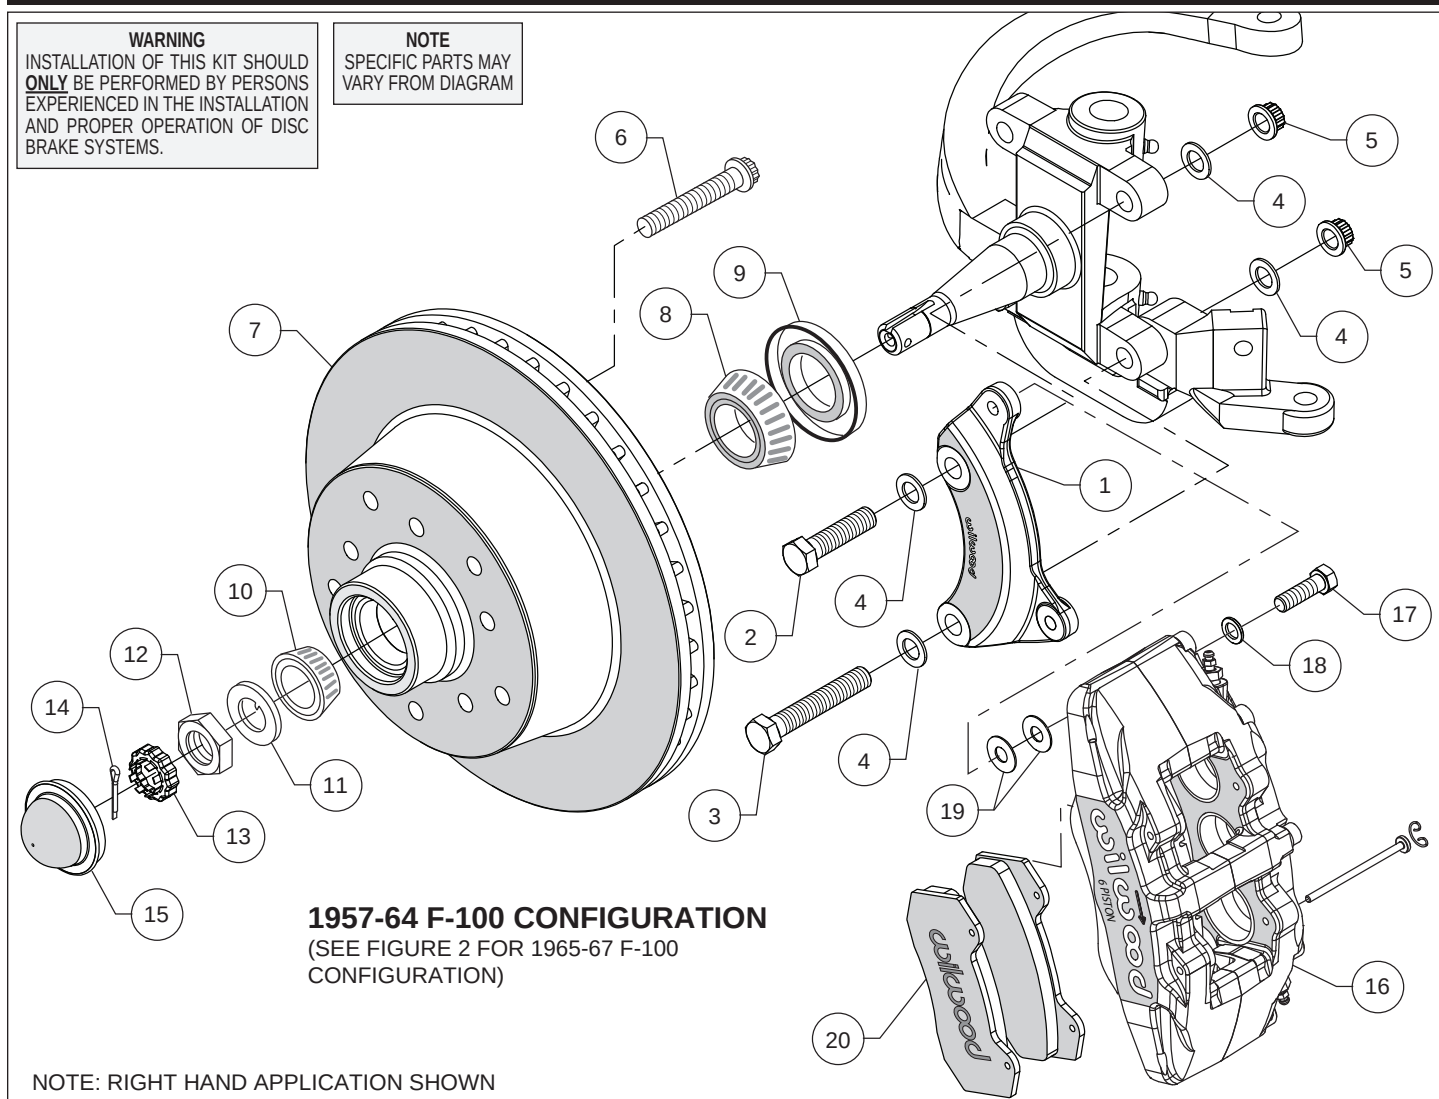

Figure 1. Typical Installation Configuration, Model Years 1957-1964
Assembly Instructions (numbers in parenthesis refer to the parts list, on the preceding page and Figure 1).
- Orient the caliper mount bracket (1) as shown in Figure 1 or 2, and Photo 1, and install using bolts (2 and 3), washers (4) and nuts (5). Temporarily tighten the mounting bolts. **NOTE:** The bracket must fit squarely against the mount bosses on the upright. Inspect for interference from casting irregularities, machining ridges, burrs, etc. Torque lock nuts to 65 ft-lb.
- Install wheel studs (6) into the hub (7), Photo 2. Apply red Loctite® 271 to the threads and torque to 77 ft-lb. **NOTE:** There are two five lug patterns in the hub (5 x 4.50 and 5 x 5.50). Ensure the correct hub stud pattern is being used to fit the wheel application.
- Pack the large inner bearing cone (8) with high temperature disc brake bearing grease (available from your local auto parts store) and install into the backside of the hub (7), Photo 3.
- Install the grease seal (9, years 1957-1964) or (9A, years 1965-1967) by pressing into the backside of the hub (7), flush with the end of the hub.
- Press the dust cap (15) into the hub (7), Photo 6. **NOTE:** Do not hammer center of cap. Install using outer flange only.
- NOTE:** This kit contains distinct right and left hand calipers that must be mounted in a specific direction, as described below. Mount the caliper (16) onto the caliper mounting bracket (1) using bolts (17) and washers (18), as shown in Figure 1 or 2. Initially place two .035" thick shims (19) on each bolt between the caliper and the bracket, Photo 7. Ensure that the caliper is mounted so the largest pistons are at the rotor exit end of the caliper, in relation to the direction of rotor rotation. Temporarily tighten the mounting bolts and view the rotor (7) through the top opening of the caliper. The rotor should be centered in the caliper, Photo 8. If not, adjust by adding or subtracting shims (19) between the bracket and the caliper. Always use the same amount of shims on each of the two mounting bolts. If necessary place spare shims between washer (18) and caliper mounting ear to achieve the proper clinch nut engagement. Once the caliper alignment and clinch nut engagement are correct, remove the caliper.
- Remove the two pad retaining pins from the caliper (16) by carefully popping out the pin retaining clips and sliding out the pins. Insert the brake pads (20) into the caliper from the bottom, Figure 1 or 2, and Photo 9, with the friction material facing the rotor. Secure the brake pads in place with the pad retaining pins and clips, Photo 10. Reinstall the caliper onto the caliper mounting bracket. Apply red Loctite® 271 to bolt threads (17), and torque to 40 ft-lb.